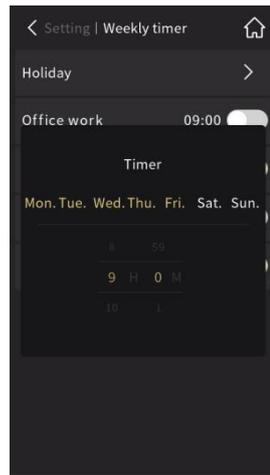

Fig.2.11.11
**㉑ By touching the middle position of this area to pop up window as shown in Fig.2.11.11;**